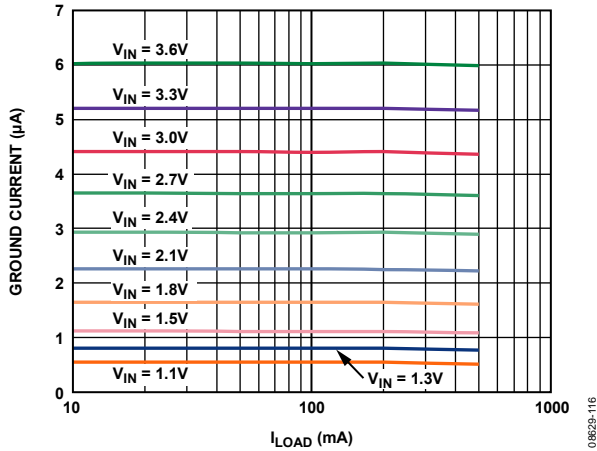

Figure 16. Ground Current vs. Load Current, Different Input Voltages
The major source for ground current in the ADP194 is the 4 MΩ pull-down resistor on the enable (EN) pin. Figure 16 shows typical ground current when  $V_{EN} = V_{IN}$  and  $V_{IN}$  varies from 1.1 V to 3.6 V.